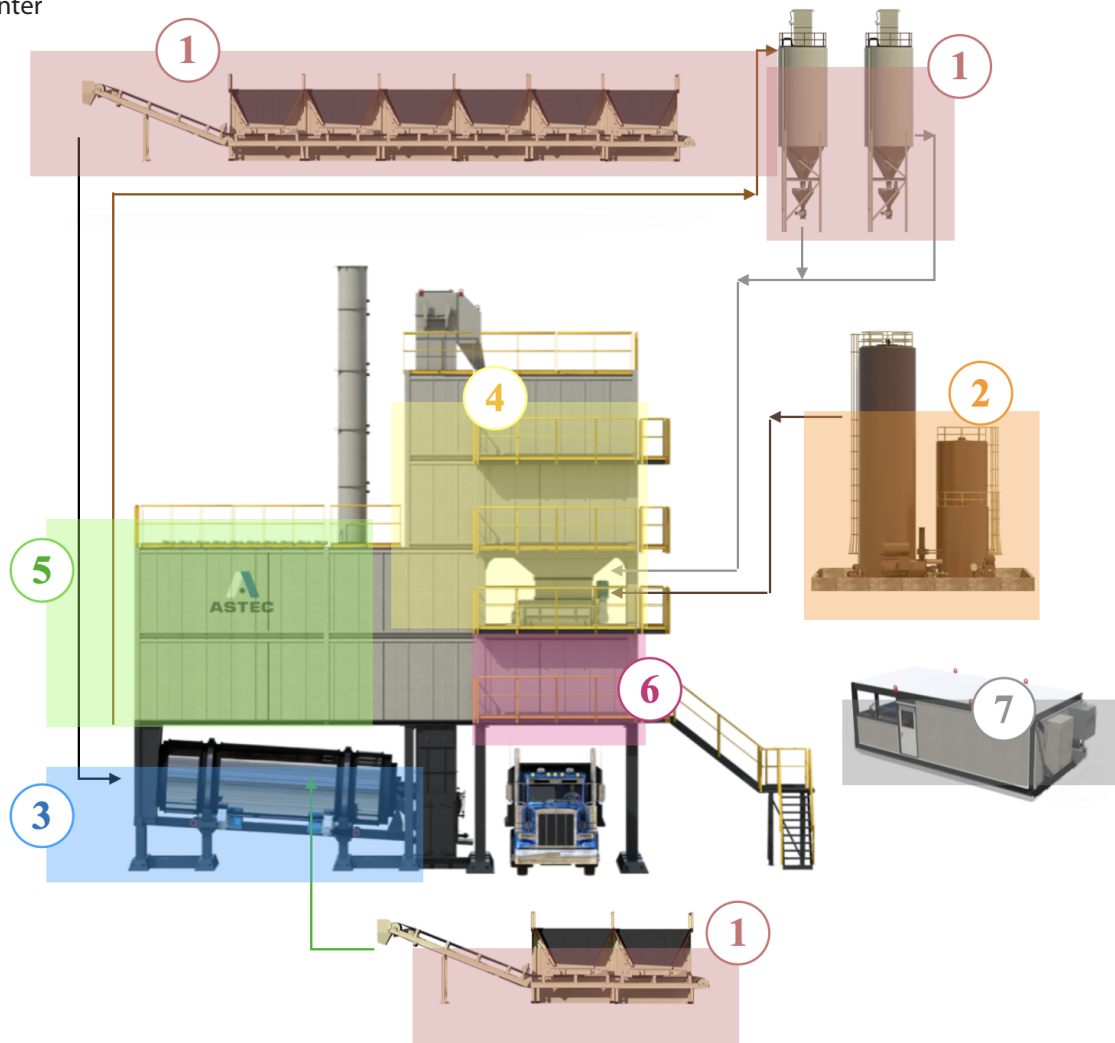

Figure 1. Asphaltic concrete batch tower facility layout by zones
- Figure 1. Asphaltic concrete batch tower facility layout by zones.....TOO-3
Each zone performs a specific function in the process of combining virgin aggregate, reclaimed asphalt pavement (RAP), additives and fillers with asphalt cement (AC) to produce asphaltic concrete for paving applications (Figure 1).